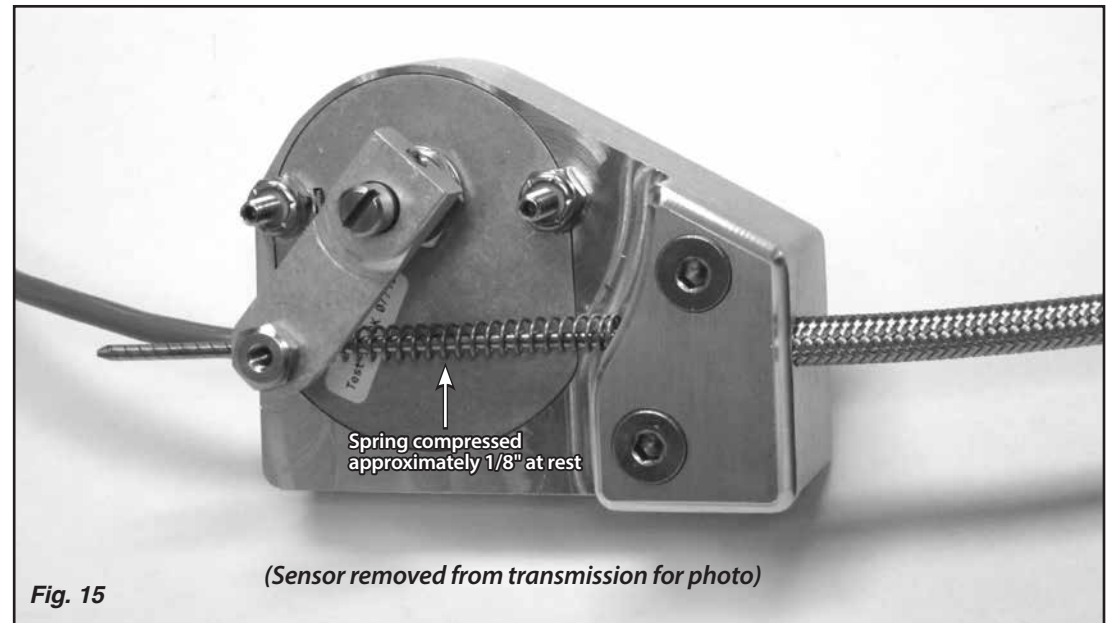

Fig. 15
Step 14: Make sure the transmission is in Park. **Push the sensor arm up against the spring, so that the spring is compressed approximately 1/8" at rest in Park.** **Fig. 15** Tighten the set screw in the index cable stop on the sensor arm using a 1/16" Allen wrench. Trim the excess inner wire, leaving about 1" protruding.